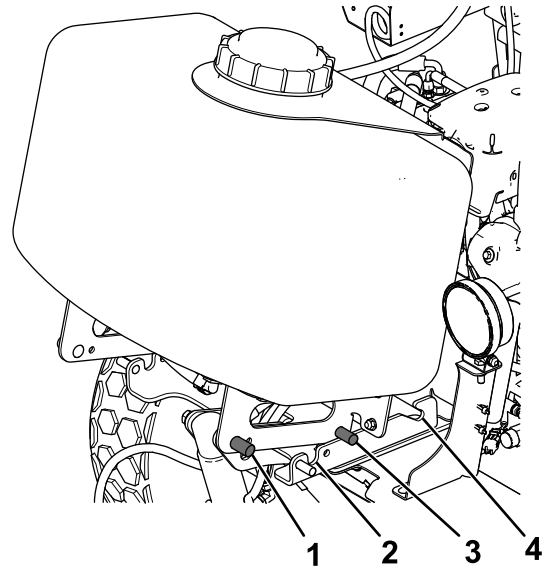

**Figure 12**
1. Ensure that all of the valves to the auxiliary tank are in the CLOSED position as shown in Figure 12.
2. Ensure that all of the valves to the main tank are in the OPEN position as shown in Figure 12.